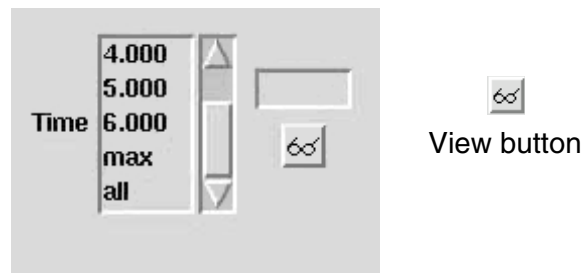

Figure 86 HSIM^{plus} PVM Window: Time Window and View Button
1. Select the desired time point from the time list shown in Figure 86.